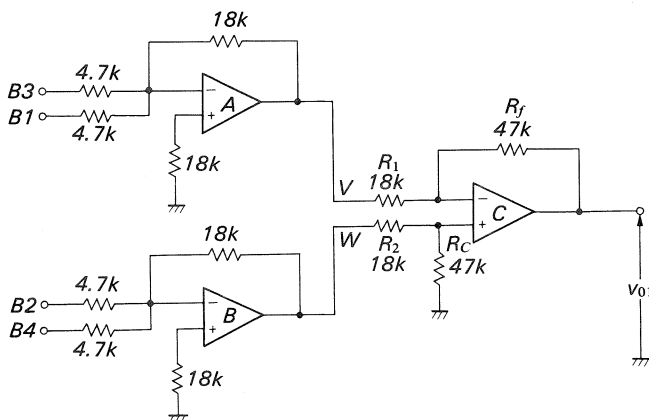

Fig. 11a Focus Servo Circuit of LD-700
Fig. 11a shows a simplified focusing servo circuit. The relation between inputs (B1 — B4) and outputs (V and W) is as follows: Amp A is an adder. When the values of resistors are substituted for the variables of the formula (4).